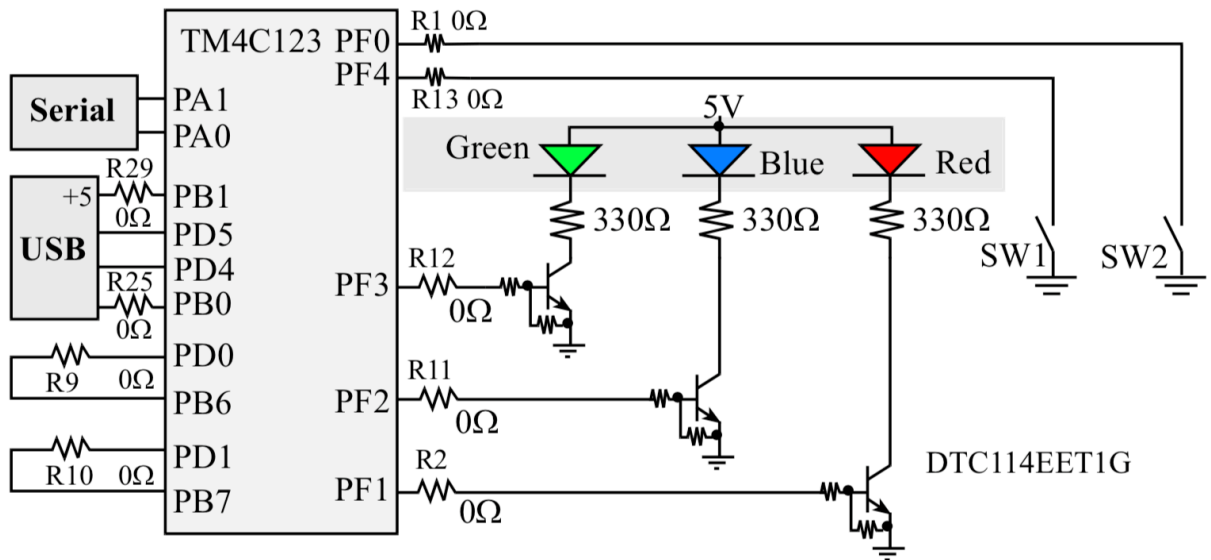

Figure 4 Switch and LED interfaces on the Stellaris® LaunchPad Evaluation Board.
- h. Diagram of your hardware system (see Figure 4 for an example)